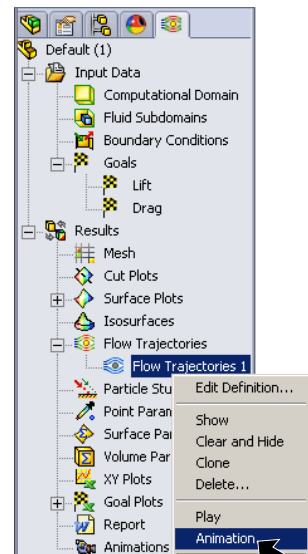

Fig. 34
Step 1. **Right click Flow Trajectories 1** in Flow Simulation tree and click **Animation**, Fig. 34.